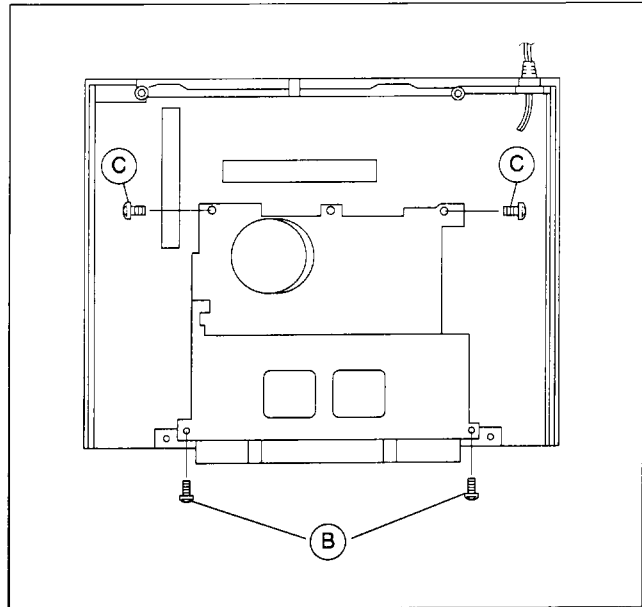

Fig. 1-5-1
- (1) Remove the Top cover and Front panel assembly.
- (2) Take out 2 screws (B) and 2 screws (C) as shown in Fig. 1-5-1.